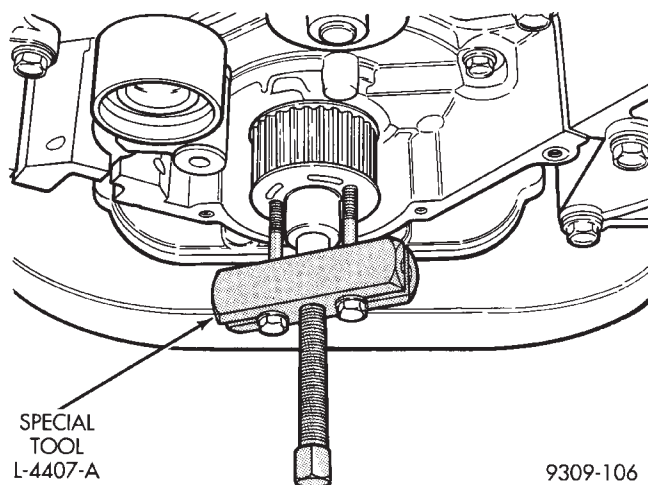

Fig. 7 Crankshaft Sprocket — Removal
(1) With timing belt removed. Refer to procedure outlined in this section.
(2) Remove crankshaft sprocket using Special Tool L-4407-A, (Fig. 7).